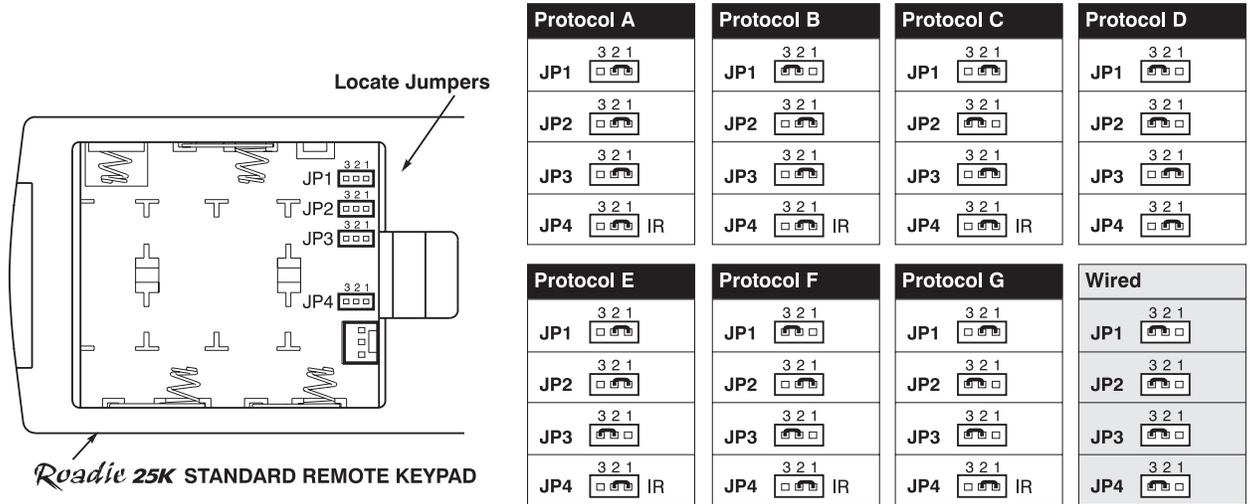

Figure 2.53. Locating and Setting the Jumpers
Set the jumpers to match one of the protocols shown in Figure 2.53. Use tweezers or needle-nose pliers to remove and replace each jumper as necessary.
If desired, you can convert an IR remote keypad into a wired remote keypad and vice versa. Set the jumpers as shown in Figure 2.53, and add or delete the cable and batteries as required. The cable with appropriate connector is supplied with the projection head.
- Set keypad protocol to “wired” jumper setting (refer back to Figure 2.53). Make sure to set jumper #4 between pins 2 and 3 as shown in the last example (shaded).
- Set jumpers according to the desired IR protocol (refer back to Figure 2.53). Make sure to set jumper #4 between pins 1 and 2 as shown for all remote protocols.